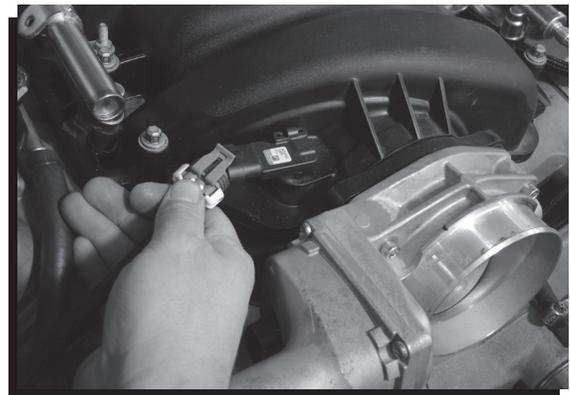

Figure 3 Disconnect Sensors and Remove the Throttle Body
2. Disconnect the TPS, MAP sensor and MAF sensor connections from the front of the intake assembly (Figure 3).